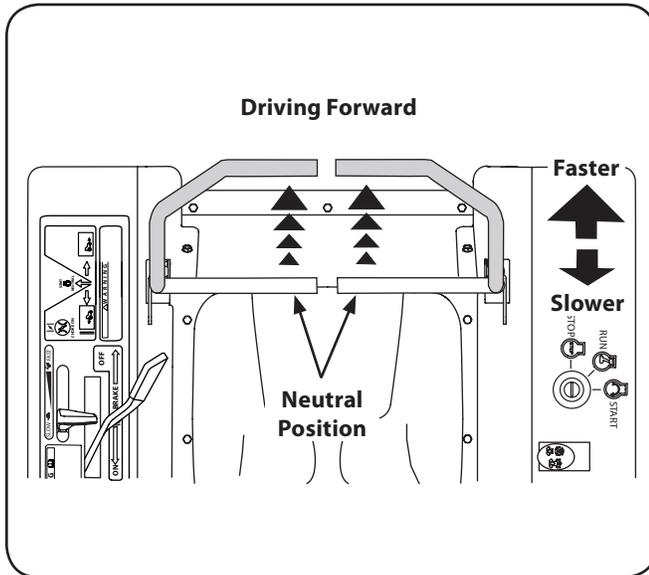

Figure 5-2
1. Slowly and evenly move both drive control levers forward. The tractor will start to move forward. See Fig. 5-2.